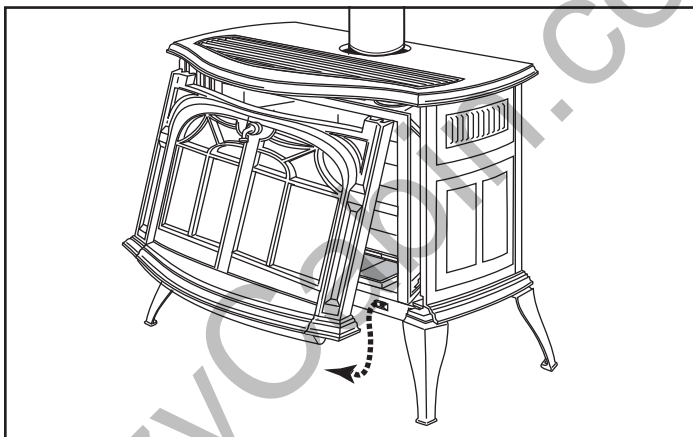

Figure 1 - Remove the stove front.
1. Remove stove front. Lift stove front up and then swing bottom out and away to disengage from the stove body. (Figure 1)